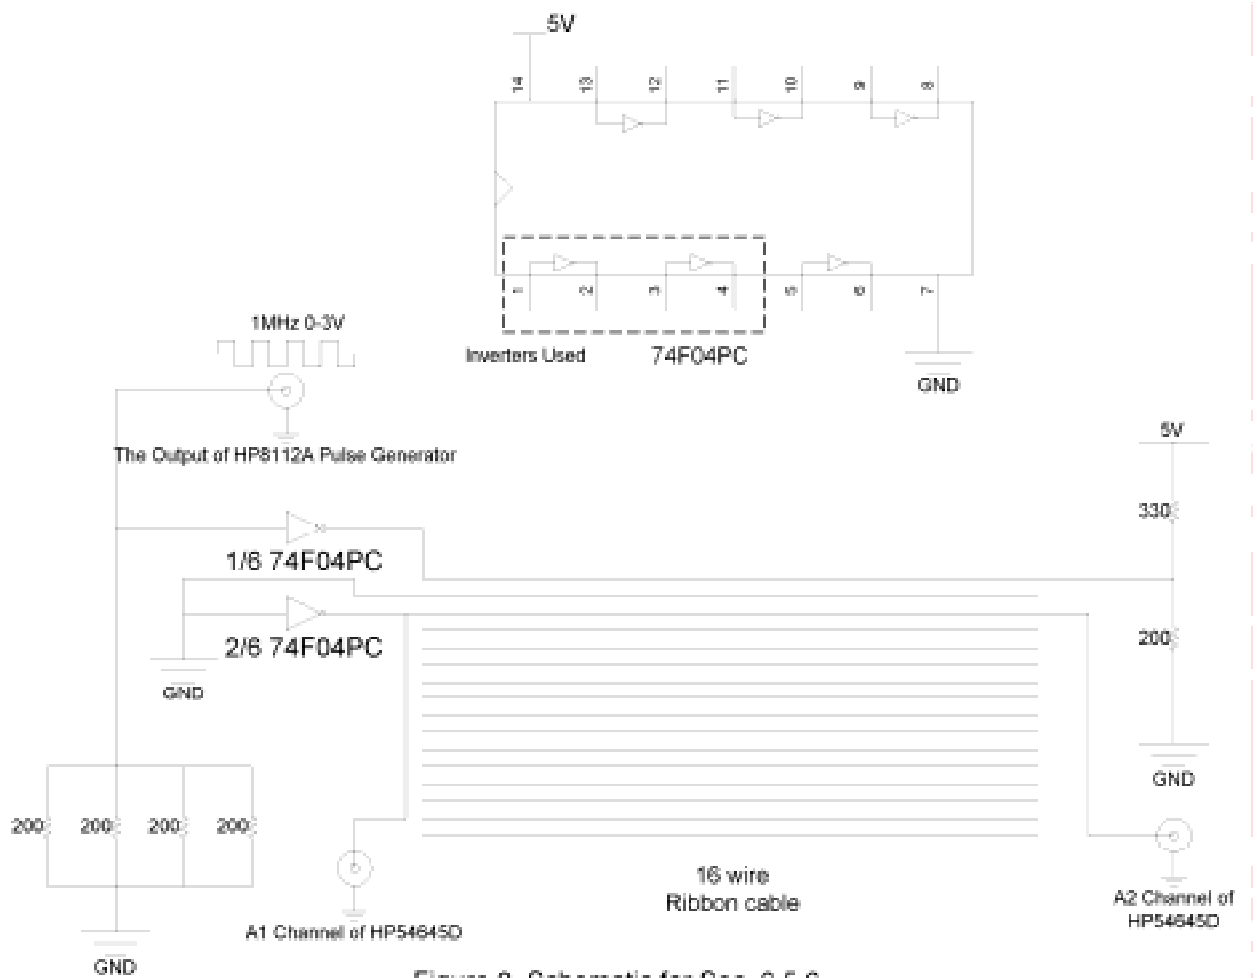

Figure 8 Schematic for Sec. 6.5.6
6. Finally, connect the wire carrying no signal to ground, thus introducing a shield between the two signals. How does this affect the settling time and overshoot of the V_{CC} signal's oscillation? Show the TA the difference in the two waveforms and explain what is happening. Refer to Figure 8 for schematic.